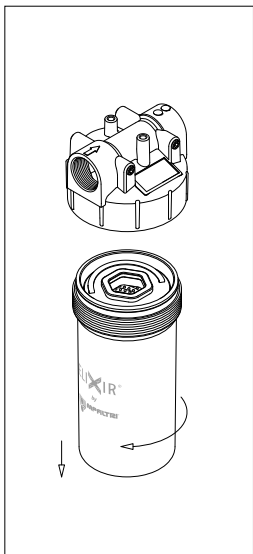

fig. 9
- (Fig. 9) Unscrew the filter bowl after placing a vessel to collect the operating fluid